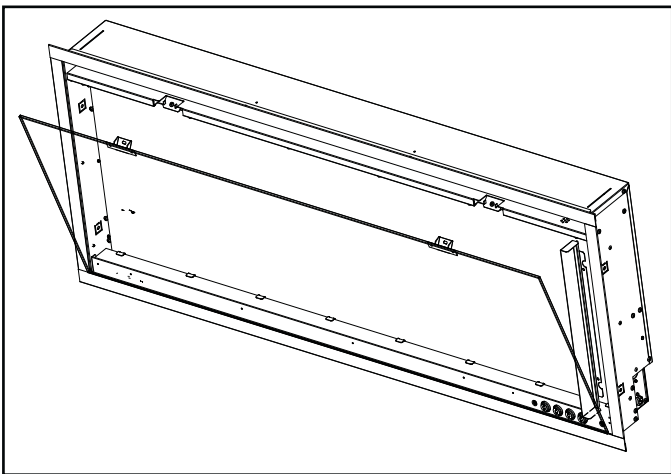

Figure 4.8 Glass Front Installation
1. Angle the glass to place the bottom edge into the channel behind the outer trim. See Figure 4.8.